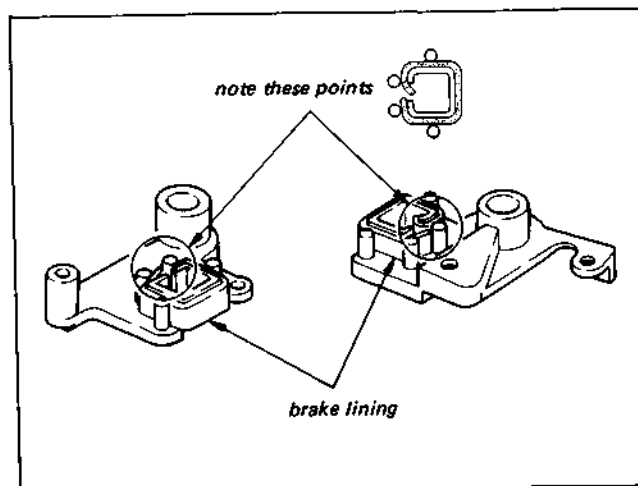

Fig. 3-45. Check of supply and take-up brake operations
- 6) As shown in Fig. 3-45, slightly change the position of the supply and take-up brake linings and install. If the tape still slackens, replace the supply brake (A-6741-039-0) and the take-up brake (A-6741-040-0), and perform the check again.